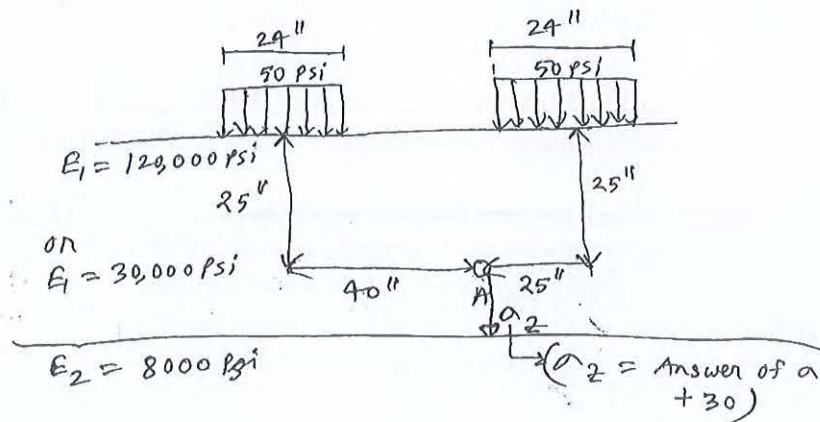

Figure 1
5. Figure 1 shows a pavement structure consisting of two layers. Two circular loads of 24-inch diameter are applied on the top layer. The pressure on the circular area is 50 psi. The elastic modulus of the different layers is shown in the figure. Determine the vertical stress, at point A which is located 25 inches below the center of both circles. Also, find out (a) the thickness of the full-depth pavement when the elastic modulus of the layer is 1,20,000 psi. If a surface treatment is applied on a granular base with an elastic modulus of 30,000 psi, (b) what is the thickness of the base course required? (12)